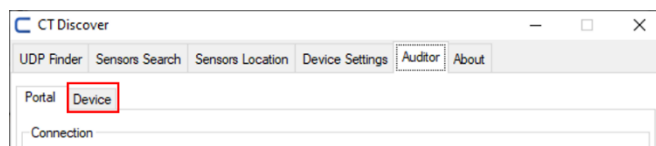

Figure 33 – Device Option
6. In order to validate the Nidus Device, select the option “Device” (Figure 33).